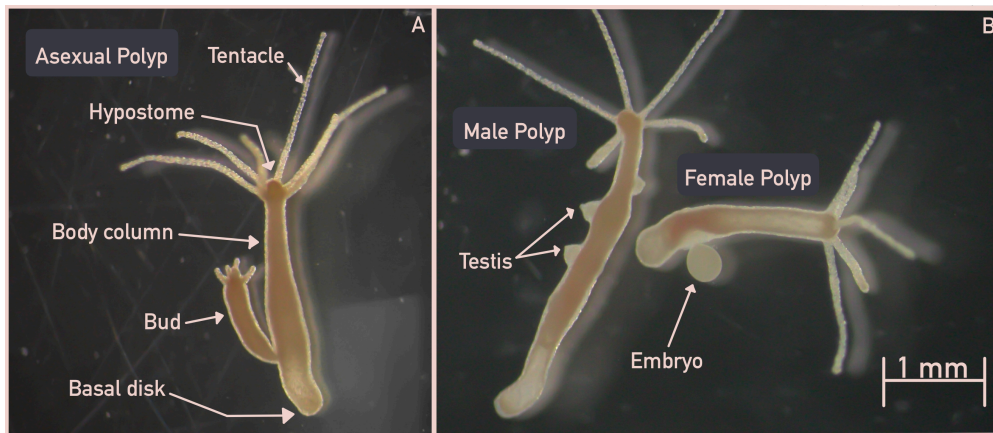

Figure 6 - (A) Shows the anatomy of a *Hydra vulgaris* polyp with attached bud. **(B)** Shows sexually differentiated polyps and their distinct traits.
- **Asexual** - *Hydra*'s preferred method of reproduction by which offspring is produced by a single parent, in *Hydra* this is done by budding. Also used to describe a polyp that is not actively expressing any sexual traits. (See Fig. 6.A)
- **Budding** - A method of asexual reproduction where a parent *Hydra* produces an outgrowth on the lower region of the body column that develops into a genetically identical clone. Until the offspring detaches it is referred to as a "bud." (See Fig. 6.A)
either sex is not guaranteed to always be that sex. (See Fig. 6.B)